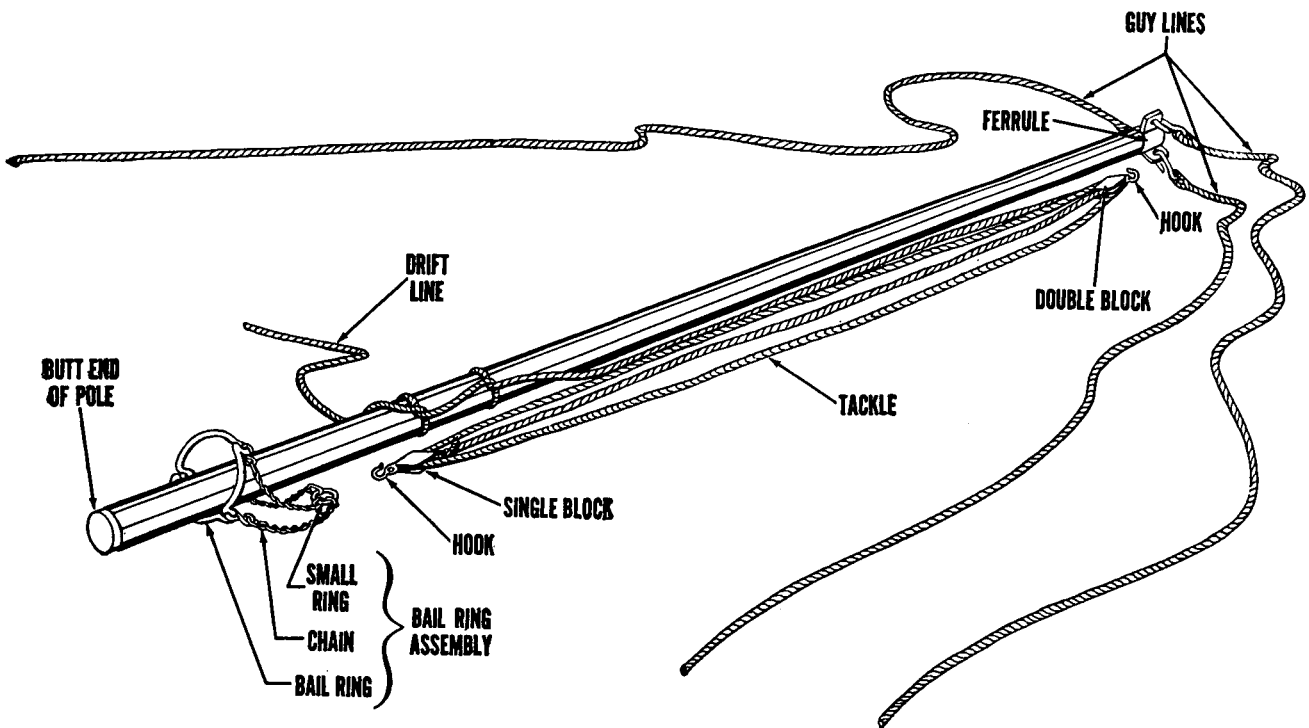

Figure 9. Preparing center pole for erection (tent, assembly, M-1942).
- (3) *Preparing center poles for erection* (3, fig. 8 and fig. 9).